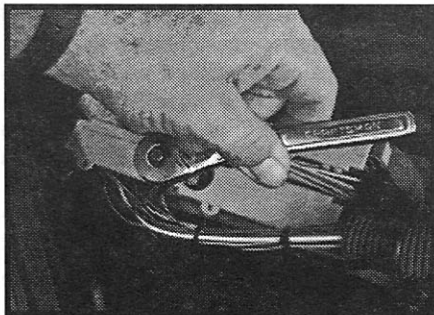

Figure 4
4. Remove the RED wiring harness furthest from the firewall from the ECM (computer) by turning the center bolt on the harness counter clockwise. This will slowly draw the harness away from the factory computer (see Fig. 4).